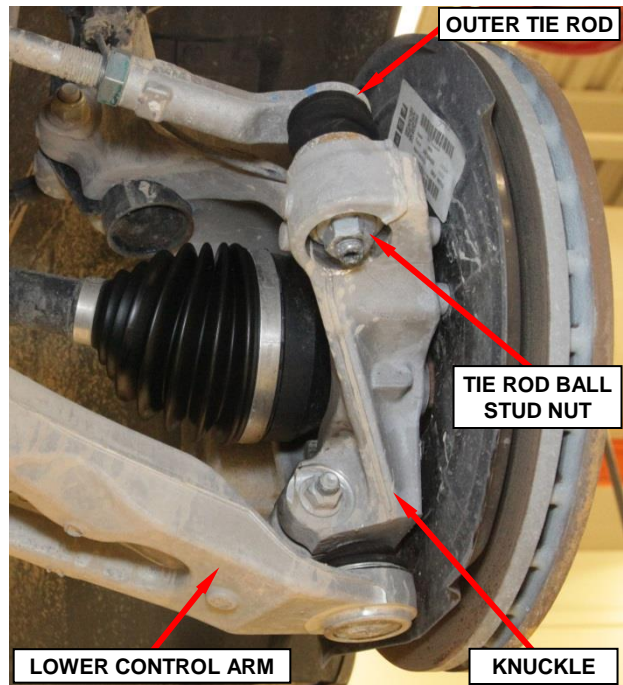

Figure 14 – Outer Tie Rod
18. Outer tie rod ball stud to knuckle; replace nut left and right side. Ensure ball stud does not rotate while tightening nut to 30 ft. lbs. + 90 degrees (40 N·m + 90 degrees) (Figure 14).